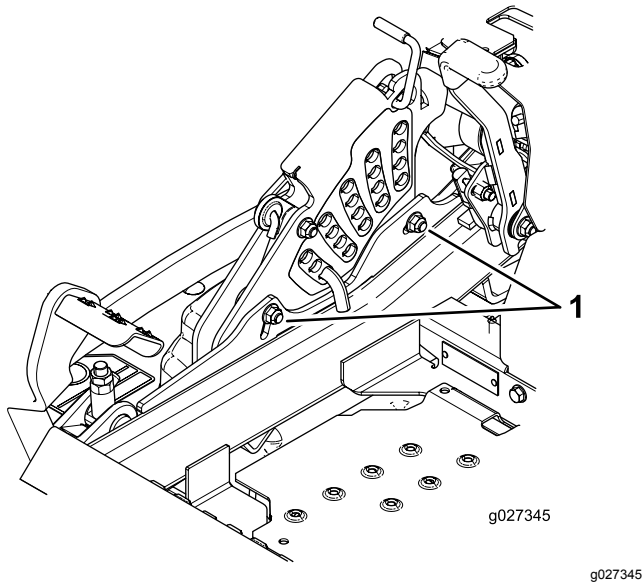

Figure 94
12. To adjust the single point system, loosen the 2 bolts at the bottom of the height-of-cut plate (Figure 94).
14. Tighten the 2 bolts at the bottom of the height-of-cut plate (Figure 94). T